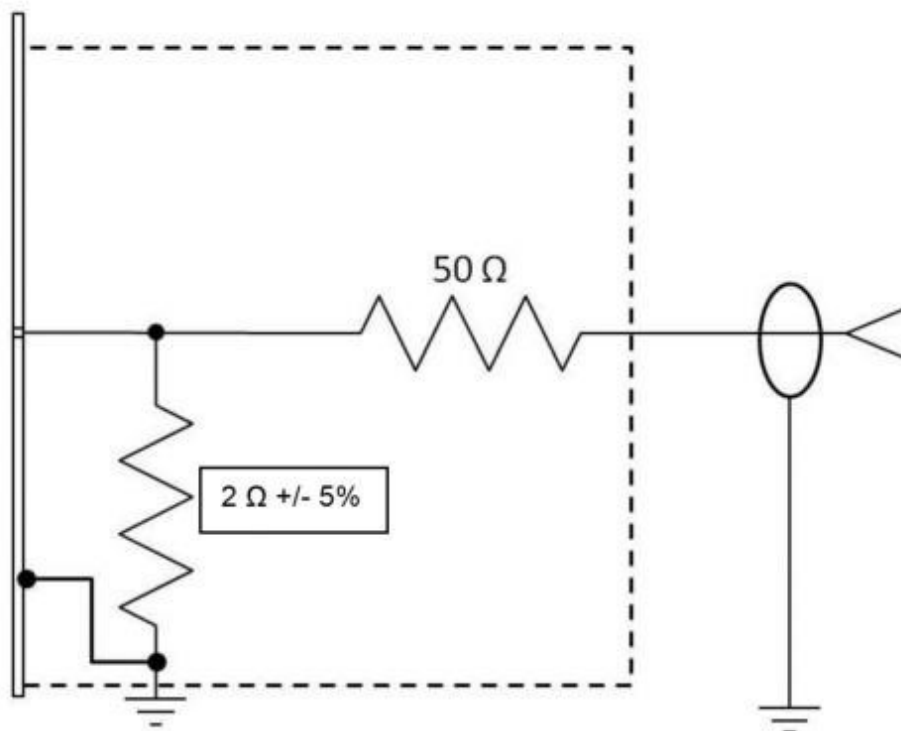

FIGURE CS118-3. Sample ESD current target schematic representation.
- ESD current target, input resistance $2 \pm 5\%$ ohms Figure CS118-3.
- Ionizer or one (1) megohm resistor ($1\text{M}\Omega \pm 10\%$).